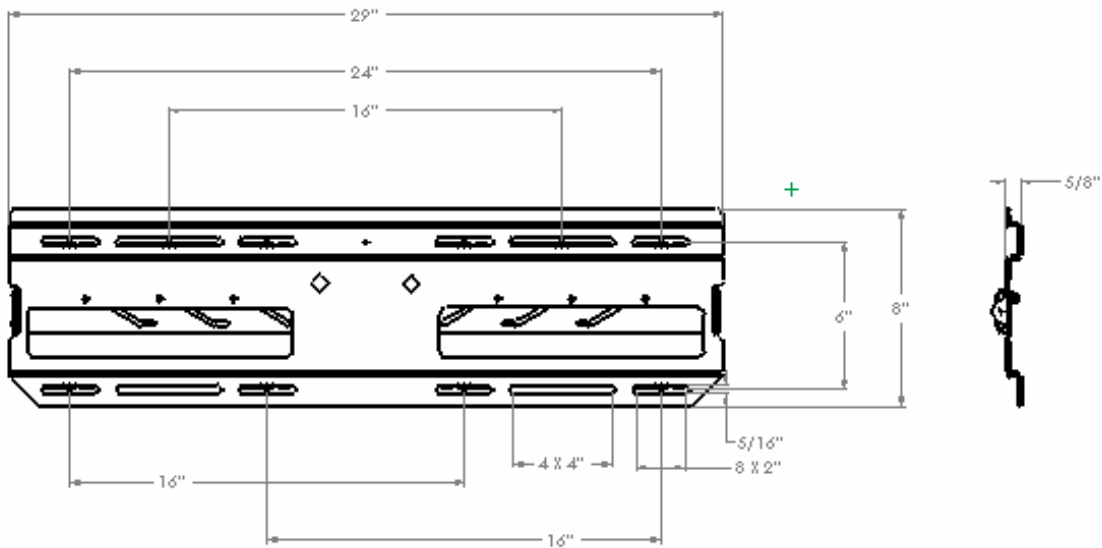

Figure 8. Wall Plate Dimensions
1. Determine a suitable mounting location and lift the wall plate (10) into place (see Figure 8).